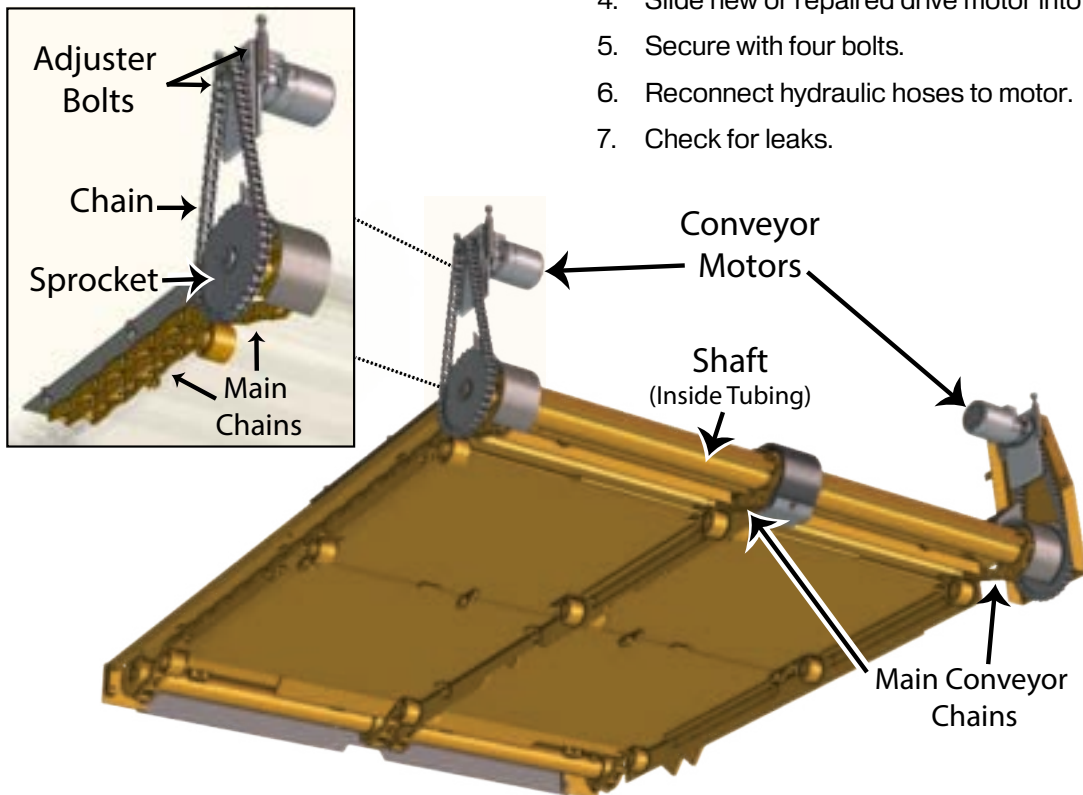

Figure 5-33. Conveyor Components
2. Remove conveyor chain cover. **(Figure 5-33)**
2. Remove four bolts holding hydraulic motor to slide mount. **(Figure 5-33)**